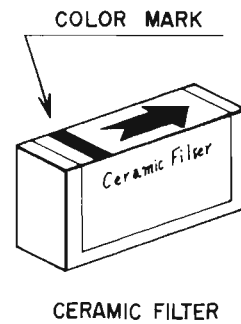

Fig. 18
- 2) Connect Genescope output to point (2) (FM IF input point) and Genescope input to point (9) (AF output point) of FM IF P.C. Board.
- 5) In making this adjustment, the S Curve marker point may vary depending upon the rank of the ceramic filter, but it is satisfactory, if through adjustment a margin of within ± 500 Hz can be obtained. (See Fig. 18)